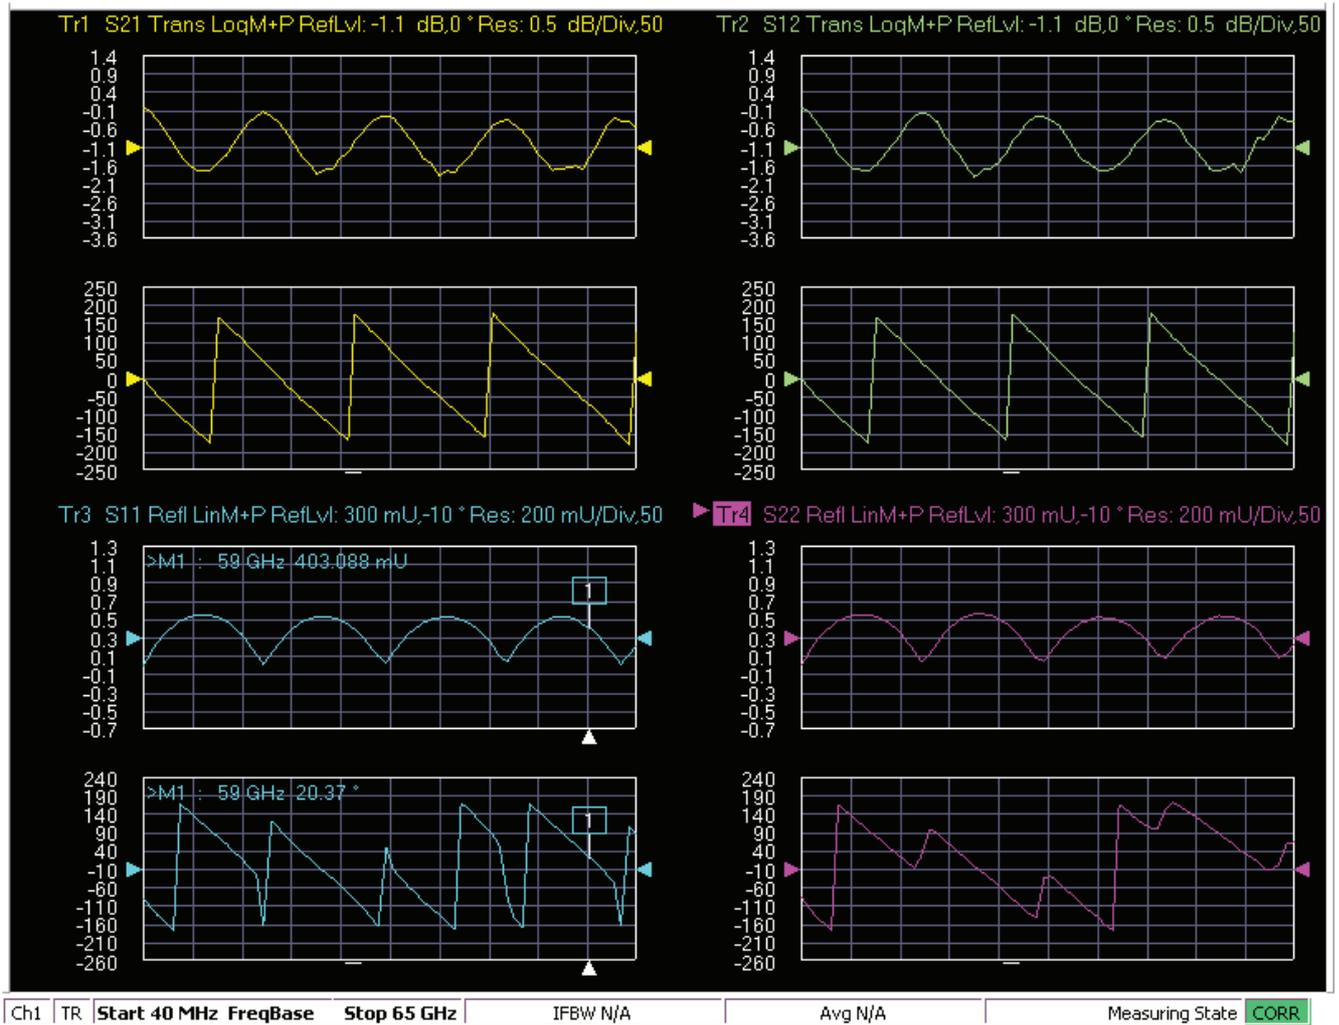

Figure 6-46. MS4640A/B Series VNA, Typical Mismatched Thru Data in Low Band
- When the test completes, the program returns to the main menu described Section 6-8 “Application Interface – Main Menu Tab” on page 6-22, and the display should look similar to Figure 6-46. This is a typical display immediately after measuring the Mismatched Thru in the Low Band. Please note this is for reference only and that the actual data on the VNA display may not be identical.